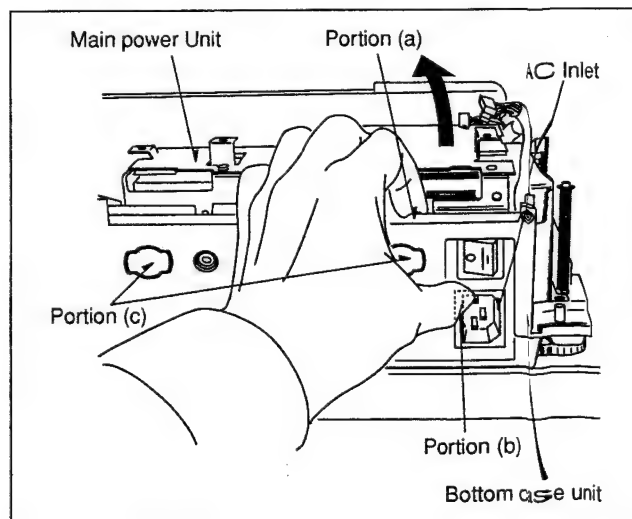

Fig. D16
2. Pulling the Portion (a) of the Bottom Case Unit, press the Portion (b) on the AC Inlet, as shown in Fig. D16, and release the Main Power Unit rotating in the direction of arrow and pull it upward.